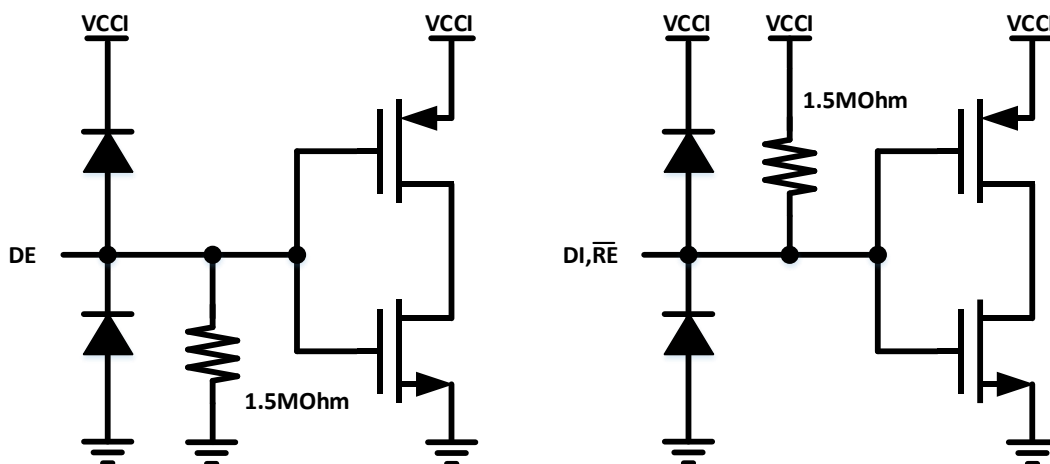

Figure 8-1. Input equivalent circuit
The CA-IS309x devices include three logic inputs on the logic side: receiver enable, driver enable and driver digital input. The driver enable control DE pin has an internal weak pull-down to GNDA, while the digital input DI and receiver enable pins have an internal pull-up resistor to V_{CC}/V_{CCL} , see Figure 8-1 the input equivalent circuit.
The transmitter converts a single-ended input signal (DI) from the local controller to differential outputs on the bus lines A and B. The truth table for the transmitter is provided in Table 8-2, the driver enable control DE pin has an internal weak pull-down to GNDA, see Figure 8-1 the input equivalent circuit; while the digital input DI pin has an internal pull-up to V_{CC} for CA-IS3092W/CA-IS3098W or V_{CCL} for CA-IS3092VW/CA-IS3098VW. The driver outputs and receiver inputs on the bus side are protected from $\pm 20kV$ electrostatic discharge (ESD) to GNDB, as specified by the Human Body Model (HBM). The driver outputs also feature short-circuit protection and thermal shutdown.